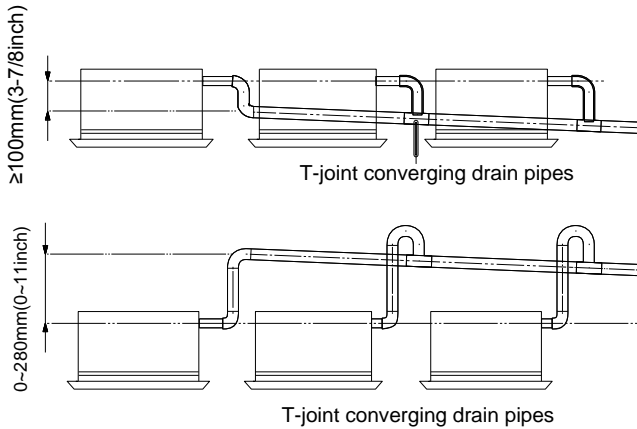

Fig. 4.20
- (3). When unifying multiple drain pipes, install the pipes as Fig. 4.20. Select converging drain pipes whose gauge is suitable for the operating capacity of the